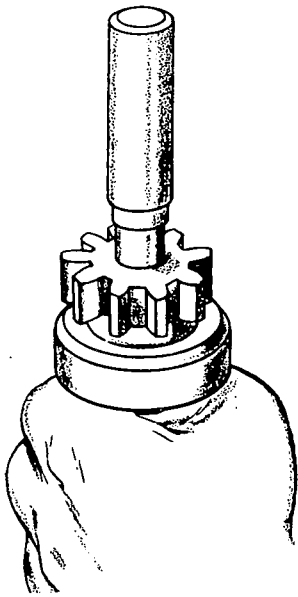

FIGURE 36. REMOVING RING
4. Remove the ring after driving the pinion stopper toward the pinion gear using a cylindrical tool as shown in Figure 36. The overrunning clutch and the pinion stopper should be removed simultaneously.